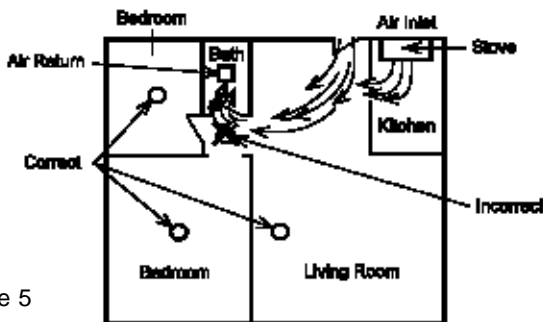

Figure 5
- **In air streams passing by kitchens.** Figure 5 shows how an alarm can be exposed to combustion particles in normal air movement paths, and how to correct this situation.